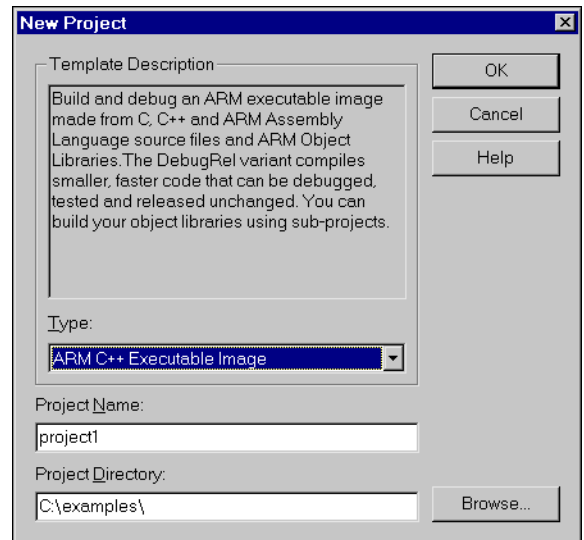

Figure 2-26 The APM New Project dialog
2. Select **Project** from the list of options and click **OK**. The New Project dialog is displayed (Figure 2-26 on page 2-55).